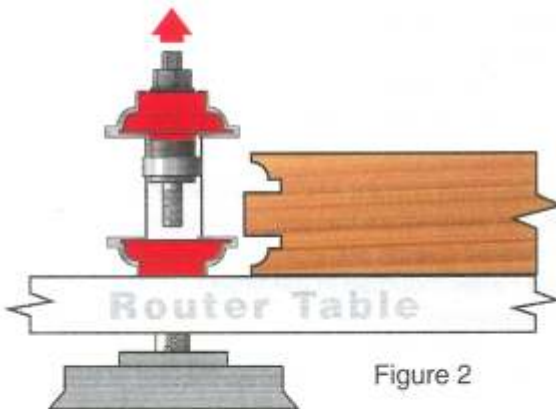

Figure 2
- Use the included $\frac{1}{4}$ " hex wrench to remove the upper portion of the rail bit, as shown in Figure 2. Do not change the height of the router or the lower section of the router bit!